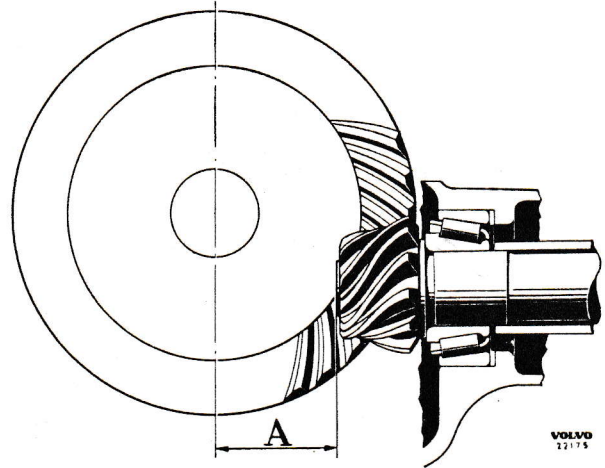

Fig. 23. Pinion location.
5. Replace the press tool SVO 1845 with a washer and nut. Tighten the nut to a torque of 28—30 kgm. (200—220 lb.ft.). Then check the pinion bearing tension. It should be relatively easy to rotate the pinion (11.5—23 kgcm = 10—20 lb.in.). There should be no looseness. Bearing tension is adjusted by means of shims (26) on the forward pinion bearing.
6. There should be a certain nominal measurement (A, Fig. 23) to the centre line of the ring gear. Due to tolerance in manufacture, however, there are deviations from this nominal measurement. This deviation is shown on the ground surface on the pinion by means of a figure with a plus or minus sign. If there is a plus sign in front of the figure, the nominal measurement is to be increased and in the case of a minus sign, the nominal measurement is to be decreased.